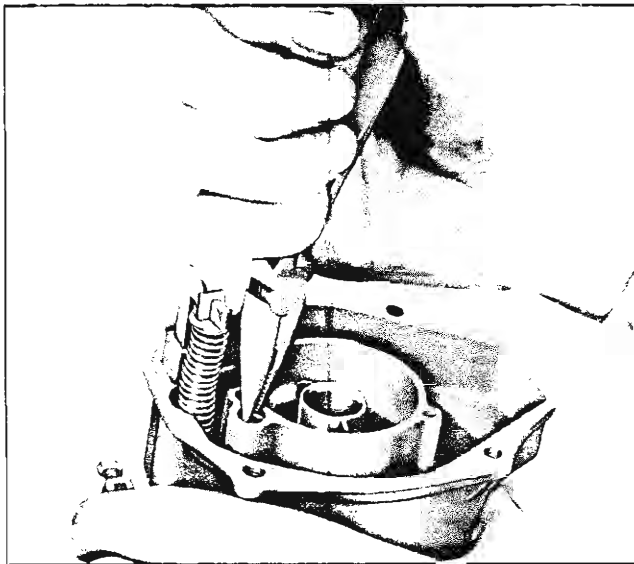

Fig. 12—Removing Pump Discharge Guide
15. With small needlenose pliers, remove pump discharge guide (fig. 12). Pump discharge spring and ball check will fall from bowl when turned upside down.